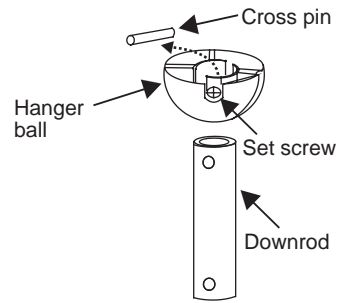

Figure 9
1. Remove the hanger ball from the 8" downrod by loosening the set screw at the top of the downrod which holds the hanger ball to the downrod. (fig. 9)
2. Slide the hanger ball down the downrod and remove the support pin. (fig. 9)